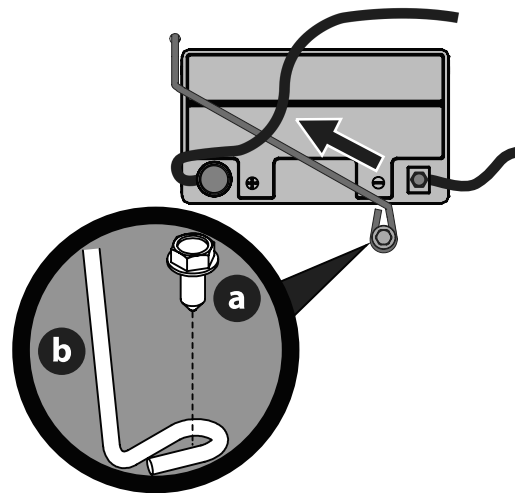

Figure 16
NOTE: Wiring harness should lay on top of battery hold down rod, otherwise damage to the wiring harness may result (Figure 16 on page 13).
3. Remove the hex washer screw (a) securing the battery hold down rod (b) to the frame. Then flip the battery hold down rod (b) up to free the battery (Figure 16).